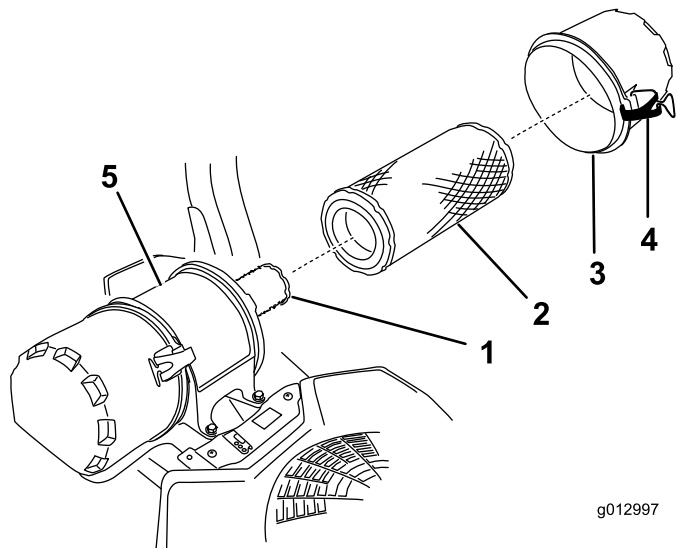

Figure 45
6. Release the latches on the air cleaner and pull the air cleaner cover off the air cleaner body (Figure 45).
- Gently slide the primary filter out of the air cleaner body (Figure 45).
- To replace the safety filter, carefully slide it into the filter body (Figure 45).
- Carefully slide the primary filter over the safety filter (Figure 45).
- Install the air cleaner cover and secure the latches (Figure 45).